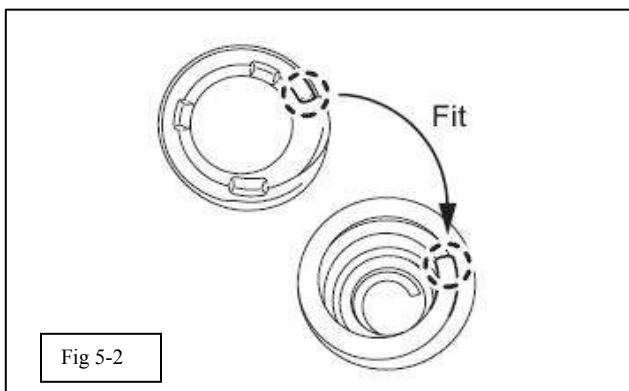

Fig 5-2
- (1) Confirm lower coil spring insulator is seated properly on the beam axle.
- (2) Install the coil spring insulator upper so that its pocket fits onto the end of the coil spring. (Fig. 5-2)